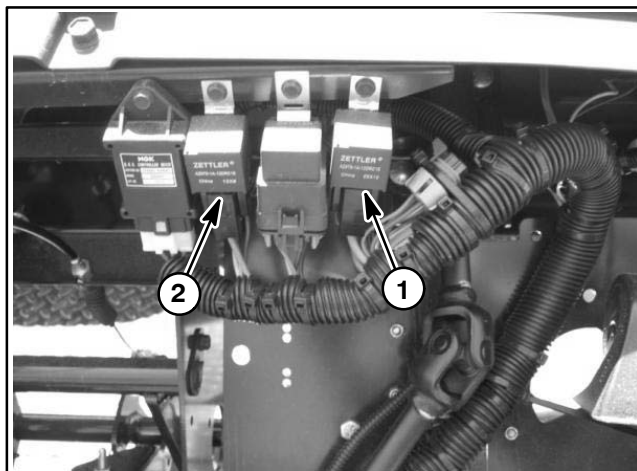

Figure 17
The Workman MDX-D main and glow relays are attached to the front of the dash bracket and can be accessed by raising the hood (Fig. 17). The vehicle wire harness is attached to the main and glow relays with four (4) wire connectors. Relays can be identified by a tag on the wire harness.